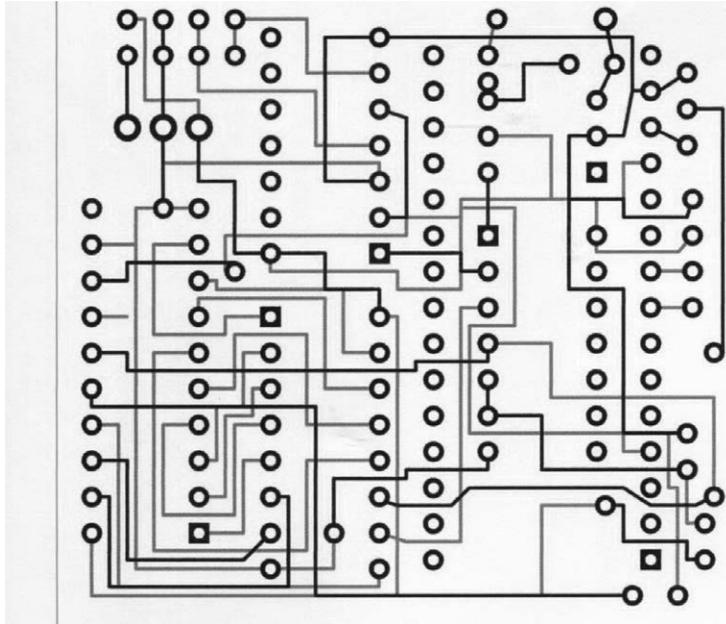
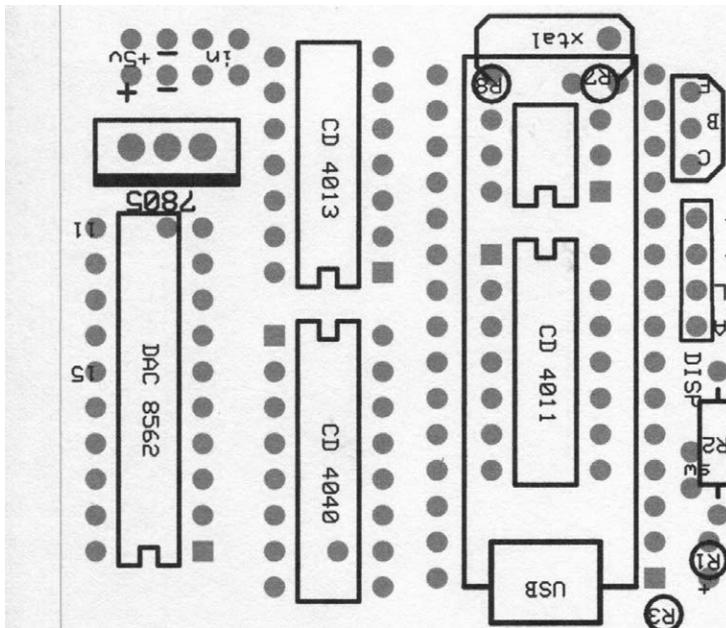

Figure 8-15: Trace patterns for the shield. The darker gray is the upper copper layer, and lighter gray is the lower layer.
Figure 8-16: The component placement on the shield
Unlike the Chronograph Lite, the Full Ballistic Chronograph is best built on a shield. The shield is a little more involved than some of the others in this book, but don't be intimidated. Figure 8-15 shows the actual traces of the shield, while Figure 8-16 shows the silkscreen image with the part placements and hole configuration. For this project, I opted for a double-sided board because the circuit was a little more complex than some of the others and because it allowed me to minimize the space required. The complete PCB file is available for download at <https://www.nostarch.com/arduinoplayground/>.
2. Begin populating the PCB. I usually like to start with the components that go under the Nano—in this case, the oscillator adapter board, resistors, crystal, and CD4011. Place them in the PCB, as indicated in Figure 8-15. Next, I like to include the headers that the Nano plugs into. Once again, it’s not necessary to fully populate all the headers for the Nano. While on occasion I do use a full complement of headers, I tend to populate only those with connections, as well as a pair at the very top, in order to simplify alignment when plugging in the Nano. Additionally, there should be enough to mechanically support the Nano. Solder these headers in place now.